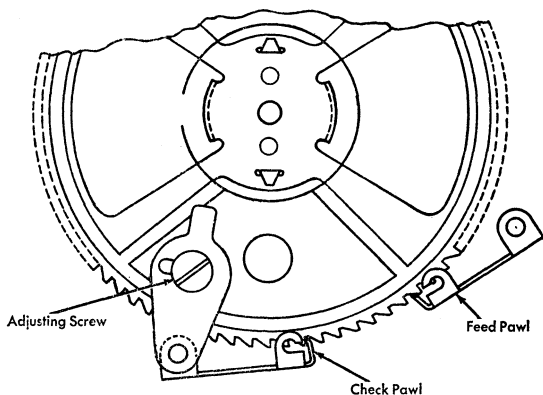

Figure 60. Ribbon Check Pawl Adjustment
6. **CHECK PAWL.** Loosen its mounting screw (Figure 60) and move the check pawl front or rear until the pawl rotates the spool enough to allow the ribbon feed pawl to rest half-way between two teeth.